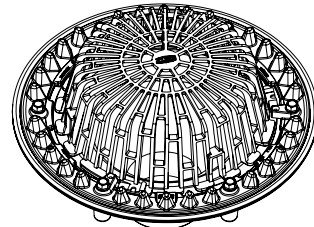

Figure 2
3. Lower the dome onto the clamped roofing material (Fig 2) and rotate the dome clockwise (Fig 2a) until the lugs engage the rotational stop features of the dome (Fig 2b).